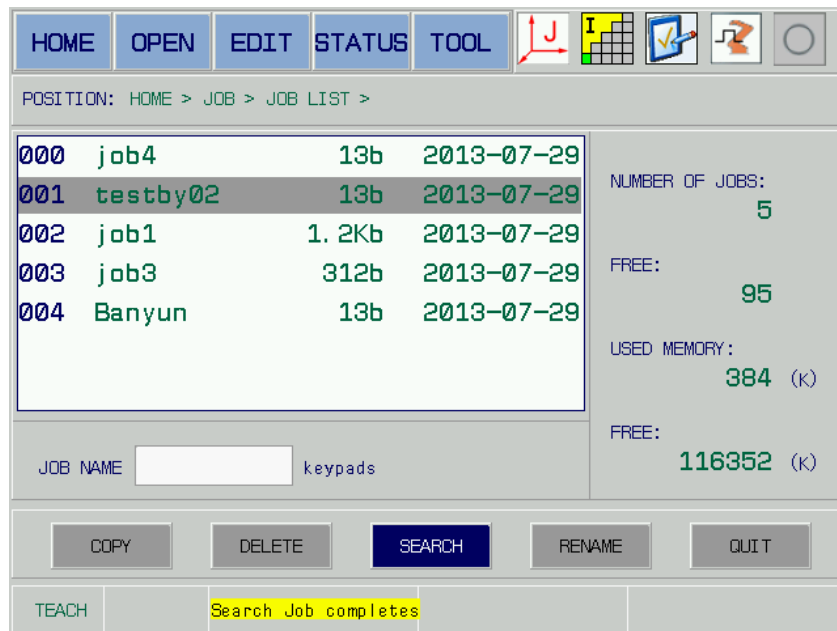

Fig. 5-17
4. Press [SELECT] to input search command; if it is correct, the cursor will stop at the found file name; otherwise, the system prompts “fail to find”; refer to the Fig. 5-17.